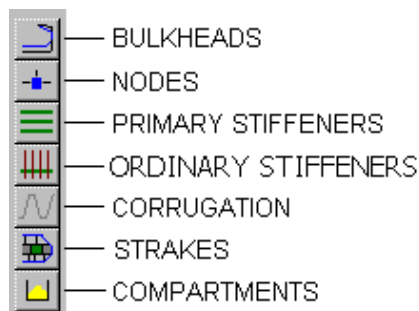

Figure 6 : BHAIN TOOLBAR
- click on the bulkhead button (Figure 6),